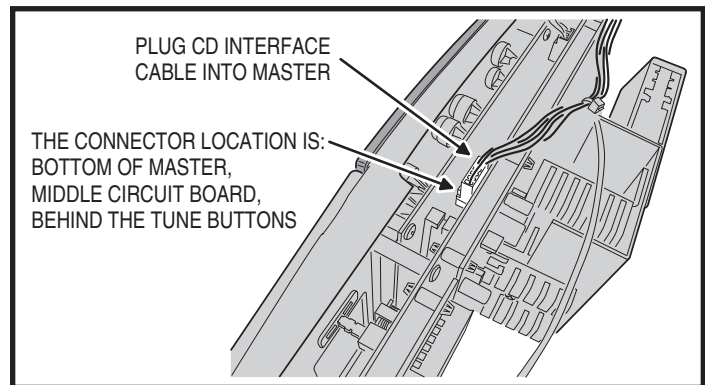

Figure 22. CD Player Interface Connection on Master Station
2. Insert one end of the CD Player interface cable into the CD interface connector on the dmc1 Master Station. This connector is located in the center of the dmc1 Master Station's middle circuit board approximately behind the two TUNE buttons (see Figure 22).